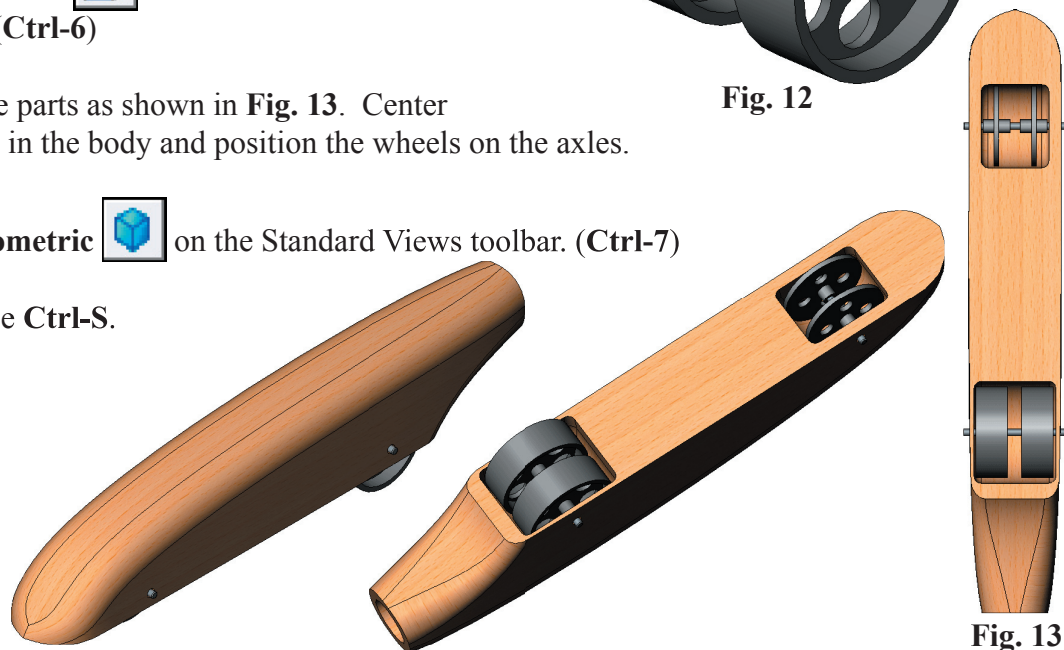

Fig. 13
Step 2. Move the parts as shown in **Fig. 13**. Center the axles in the body and position the wheels on the axles.